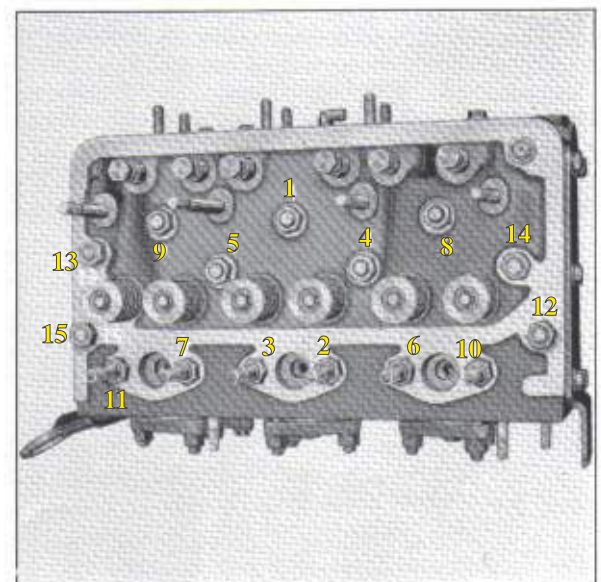

Fig. 2
15. Unscrew the fifteen nuts retaining the cylinder head to the cylinder block in a sequence opposite to that shown on Fig. 2, using the special deep socket (Tool No. T 6955).
4. Refit the cylinder head nuts and tighten in the correct order as shown on Fig. 2, to a torque of 55 to 60 lb. ft.
16. Run the engine until its normal working temperature is reached, remove the rocker shaft and tighten the cylinder head nuts down to a torque of 55 to 60 lb. ft., using the sequence shown in Fig. 2.